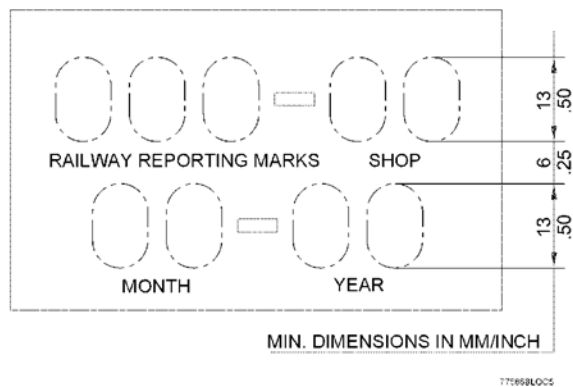

Figure 10-1 Examples of Valve Portion Stenciling with Required Information
4. A suitable surface of each portion must be stenciled with letters at least ½" high in accordance with Fig. 10-1, page 51.